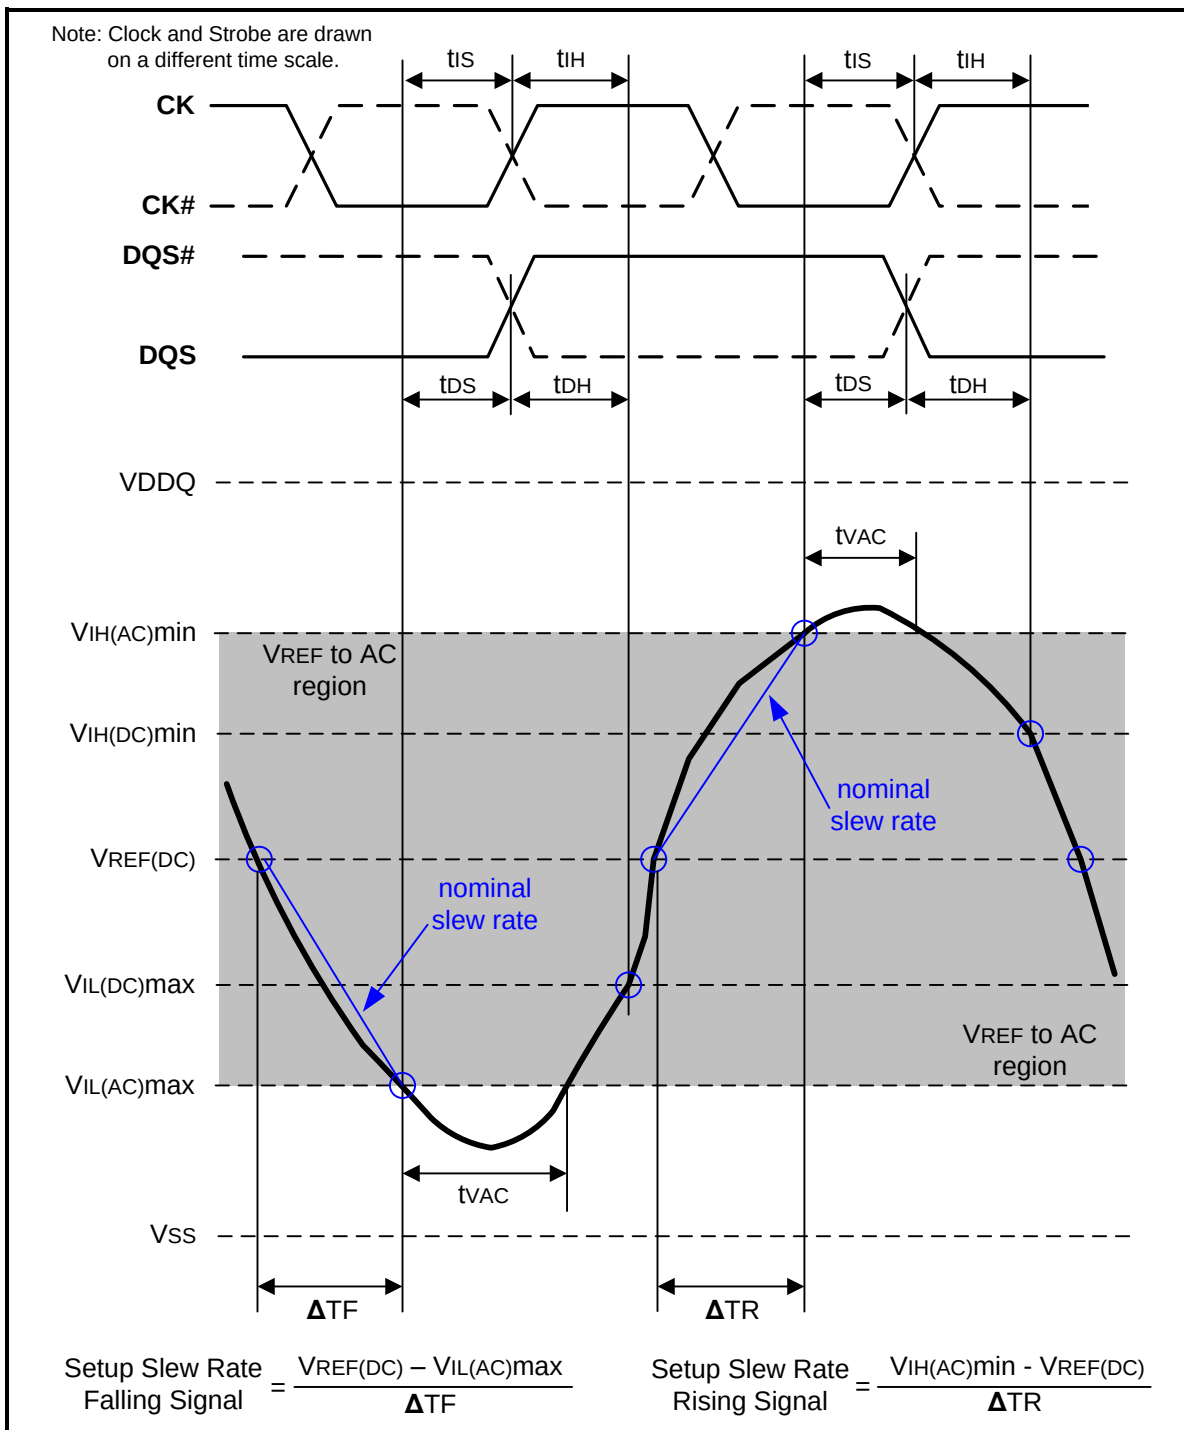
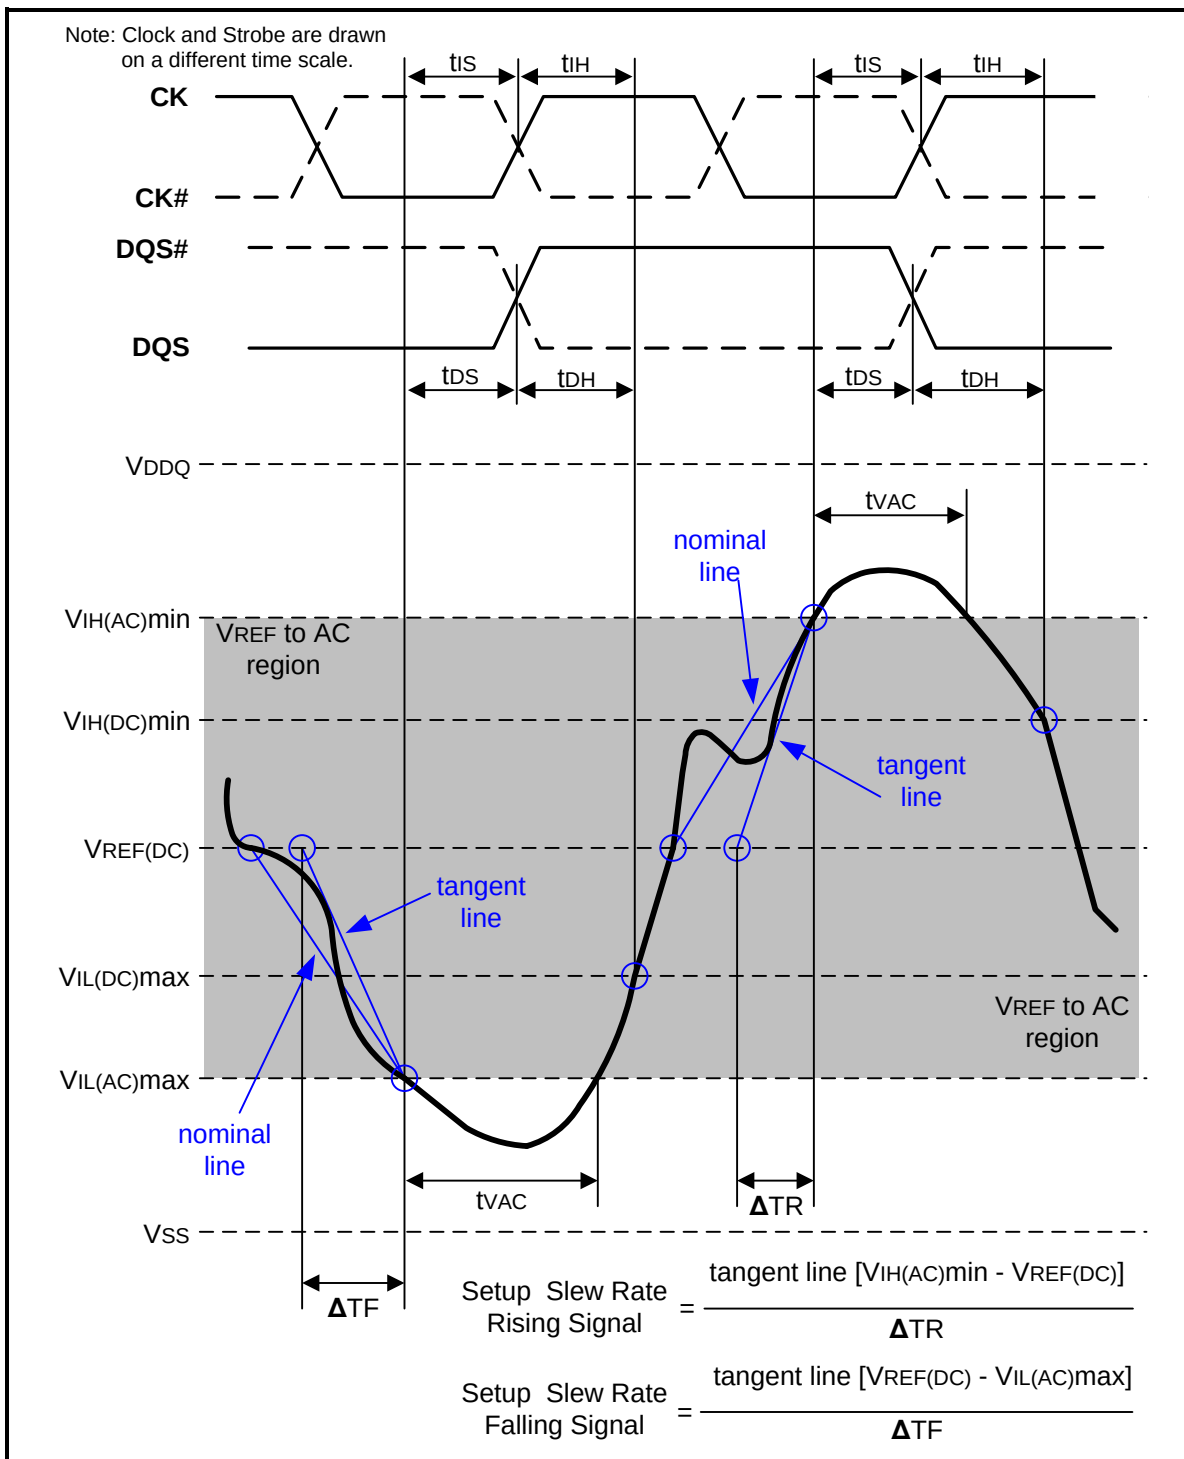

Figure 107 – Illustration of nominal slew rate and t_{VAC} for setup time t_{DS} (for DQ with respect to strobe) and t_{IS} (for ADD/CMD with respect to clock)
Figure 109 – Illustration of tangent line for setup time tds (for DQ with respect to strobe) and tIS (for ADD/CMD with respect to clock)
Setup (t_{IS}) nominal slew rate for a rising signal is defined as the slew rate between the last crossing of $V_{REF}(\text{DC})$ and the first crossing of $V_{IH}(\text{AC})_{\text{min}}$. Setup (t_{IS}) nominal slew rate for a falling signal is defined as the slew rate between the last crossing of $V_{REF}(\text{DC})$ and the first crossing of $V_{IL}(\text{AC})_{\text{max}}$. If the actual signal is always earlier than the nominal slew rate line between shaded ' $V_{REF}(\text{DC})$ to AC region', use nominal slew rate for derating value (see Figure 107). If the actual signal is later than the nominal slew rate line anywhere between shaded ' $V_{REF}(\text{DC})$ to AC region', the slew rate of a tangent line to the actual signal from the AC level to DC level is used for derating value (see Figure 109).
Setup (tDS) nominal slew rate for a rising signal is defined as the slew rate between the last crossing of VREF(DC) and the first crossing of VIH(AC)min. Setup (tDS) nominal slew rate for a falling signal is defined as the slew rate between the last crossing of VREF(DC) and the first crossing of VIL(AC)max (see Figure 107). If the actual signal is always earlier than the nominal slew rate line between shaded 'VREF(DC) to AC region', use nominal slew rate for derating value. If the actual signal is later than the nominal slew rate line anywhere between shaded 'VREF(DC) to AC region', the slew rate of a tangent line to the actual signal from the AC level to DC level is used for derating value (see Figure 109).